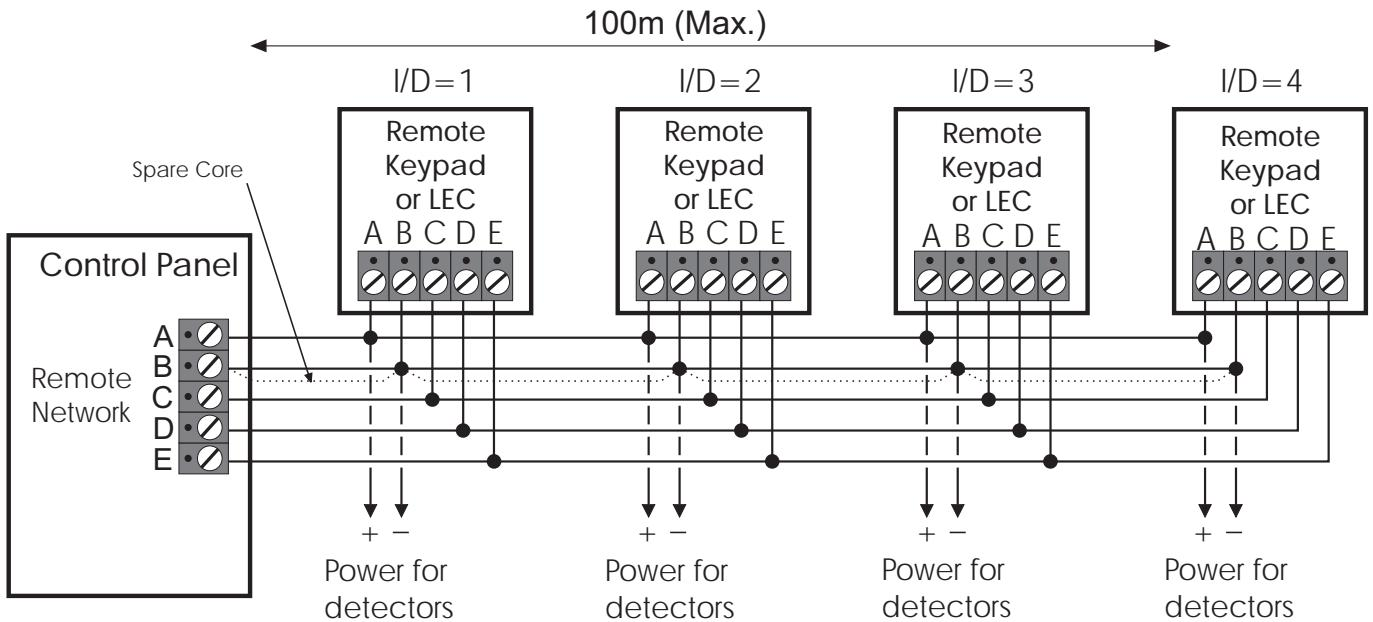

Figure 4. Remote Keypad &amp; LEC connections
4. Connect "Remote Network" and detection circuit cables to the appropriate terminals, see Figure 4.